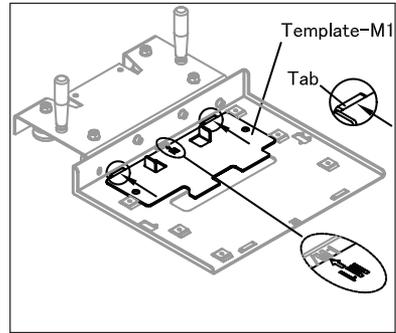

Figure 7
1. Place Template-M2 on the Carriage Base location marked "M2", making sure that the Template-M2 makes contact with both tabs on the Carriage Base. (See Figure 7)